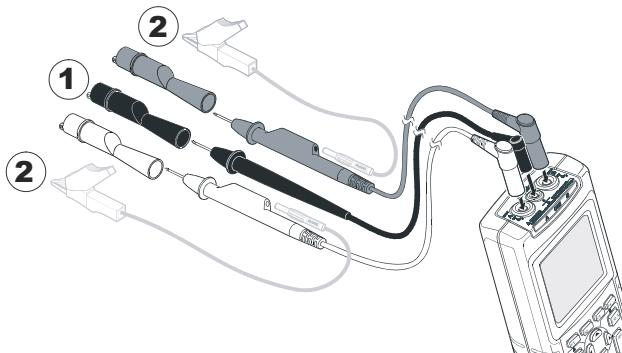

Figure 2-3. Volts Measurement Setup
See figure 2-3. For proper grounding connect the short ground leads ② to the same ground potential. You can also use test lead ① for grounding. See also Using Proper Grounding in chapter 9.